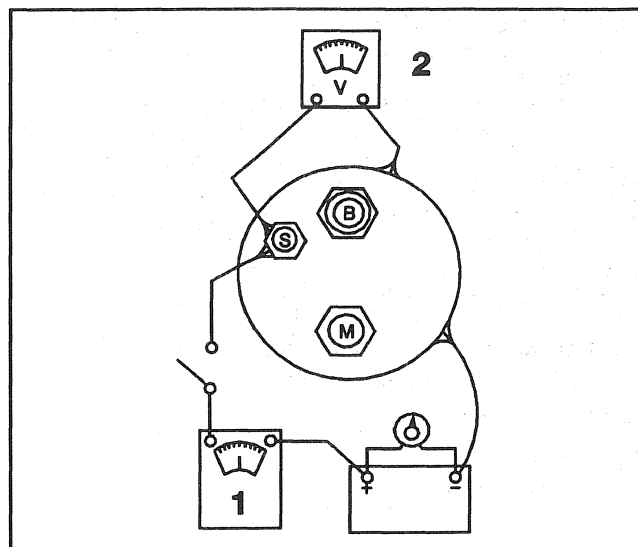

Figure 8—Solenoid Test Connections
- A. If solenoid is not removed from starter motor, the field lead must be removed from the terminal on the solenoid before making these tests. Make test connections as shown in Figure 8.